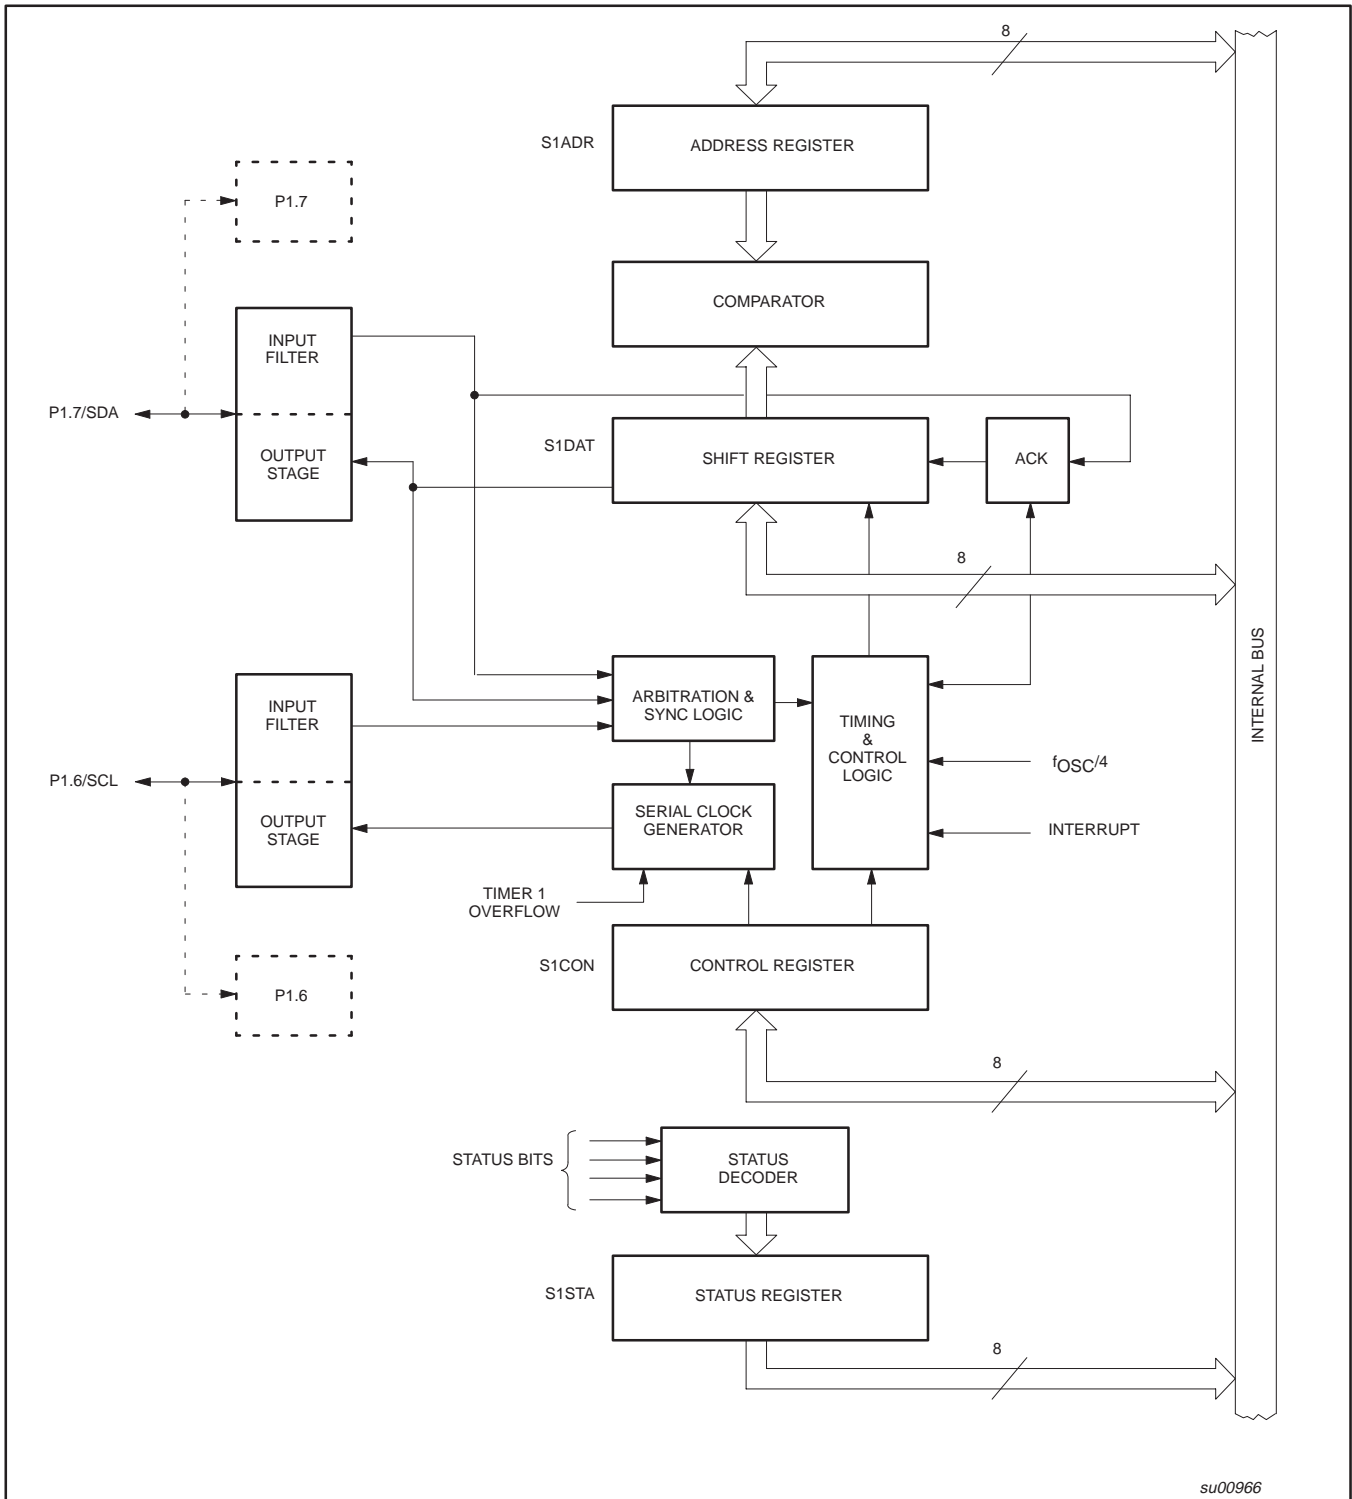

Figure 17. I2C Bus Serial Interface Block Diagram
**SIO1 Implementation and Operation:** Figure 17 shows how the on-chip I2C bus interface is implemented, and the following text describes the individual blocks.